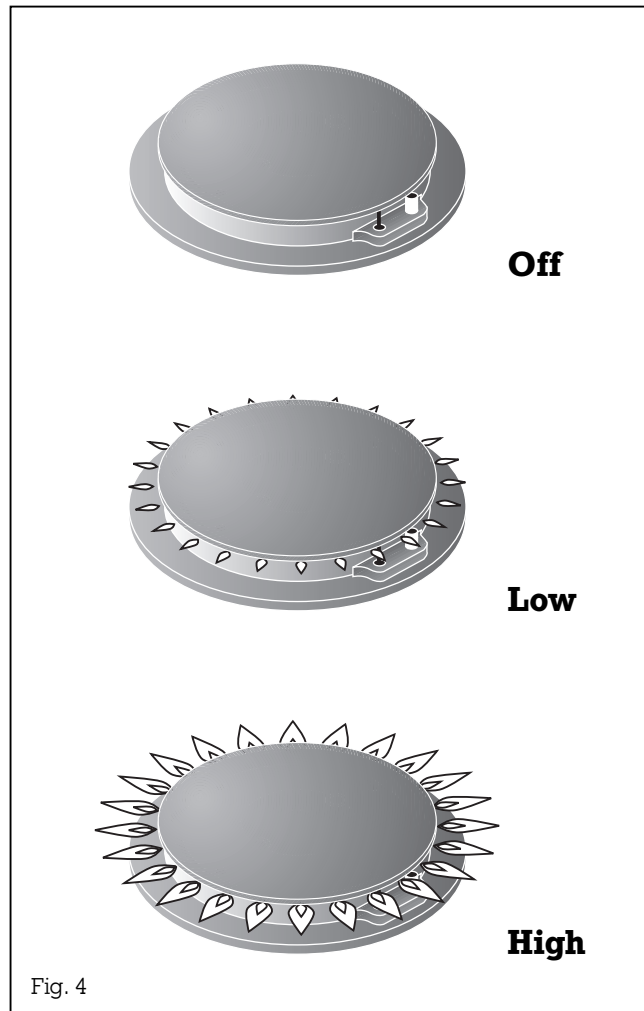

Fig. 4
- Visually check burner flames with this pictorial representation (see figure 4).